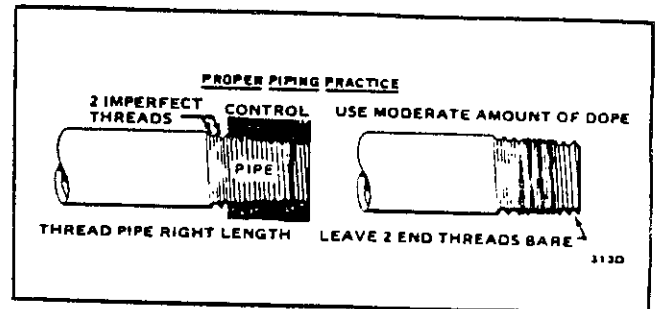

FIGURE 8 - GAS PIPE SIZES -- NATURAL GAS
8. Refer to Figure 8 for Gas Pipe Sizes for natural gas. If more than one appliance is supplied from a single line size, capacity must equal or exceed the combined input to all appliances, and the branch lines feeding the individual appliances properly sized for each input.